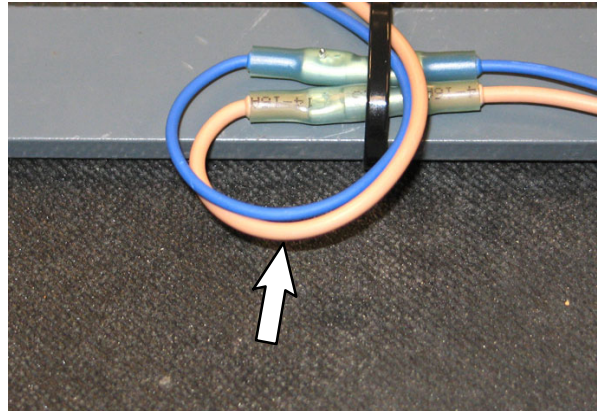
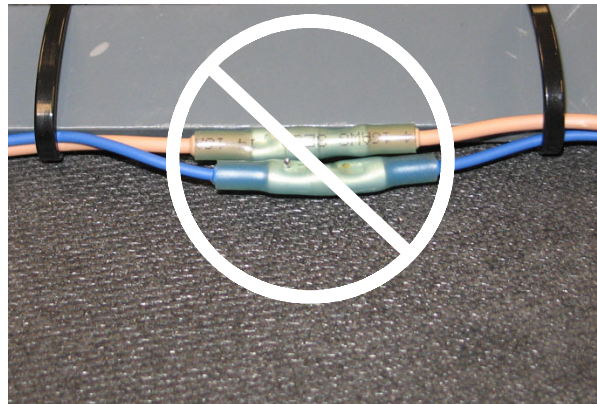

FIG. 3
FIG. 4
9. Use a cable tie to secure the electrical harness (1) to the frame of the machine and away from any moving parts that could possibly damage the electrical harness. To help prevent moisture from getting into the connector/wire connections, loop the electrical harness. (Fig. 3/Fig. 4)